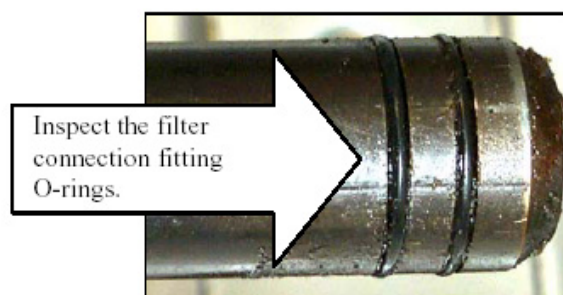

Figure 7
- Inspect the filter pan connection fitting to ensure that both O-rings are present and in good condition. (See Figure 7) 检查滤油盘连接装置，确保两边的O型圈没有丢失并完好无损。